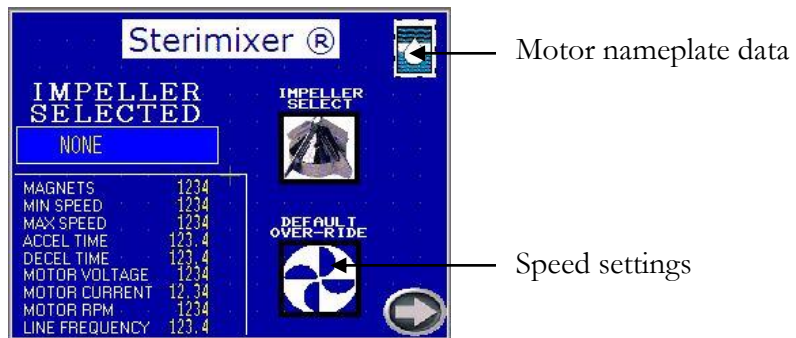

Figure 6: Operation Screen
1. Press the “Default Over-ride” button as shown in Fig. 6.